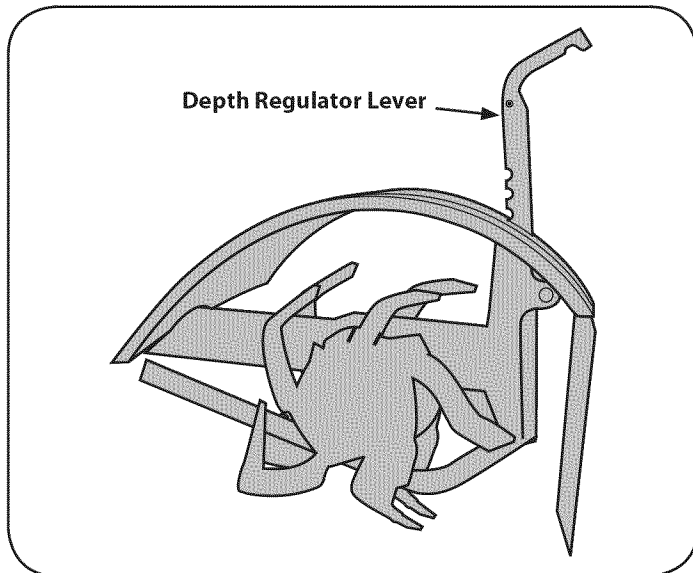

Figure 8
1. With the tiller on level ground, pull the Depth Regulator Lever back and then all the way up until the lowest notch in the lever is engaged. See Figure 8.